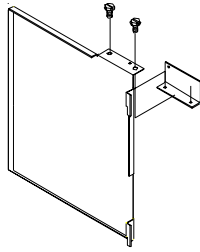

Figure 8
1. Attach the strike plate to the top of the vent door using the two #8 screws provided (Figure 8).